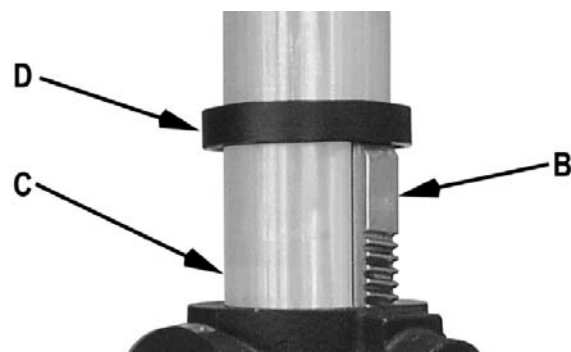

Figure 3
3. Slide the rack ring (D) over the column (C), placing it so it rests against the rack (B) as shown in Figure 3 and tighten firmly with a 3mm hex wrench (provided).